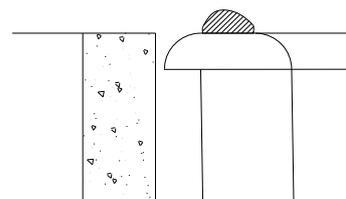

Fig 1.
7. Apply a continuous generous bead of good quality silicone onto the rim around the upper perimeter of the sink (fig 1).